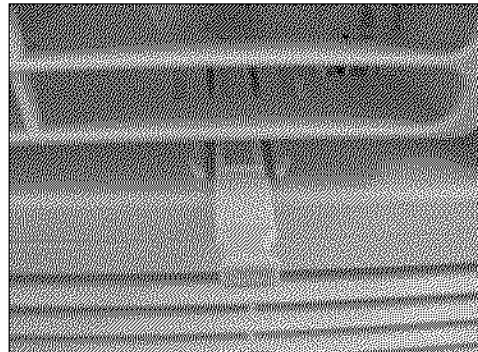

Figure 3 (VENT & EXHAUST OPEN)
3. Exchange air from the room and draws fresh air into the room — Vent and Exhaust Open (see Fig. 3)